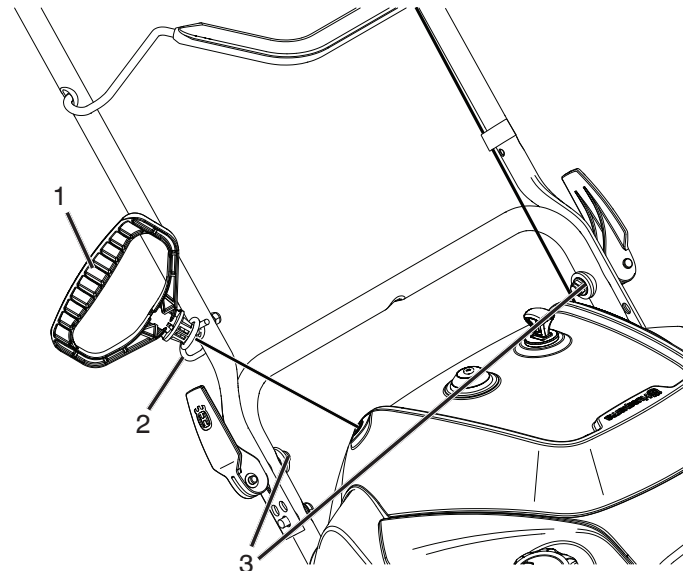

Figure 3
2. Pull up and push down slightly on the handle to verify handle is locked into place (Figure 3).